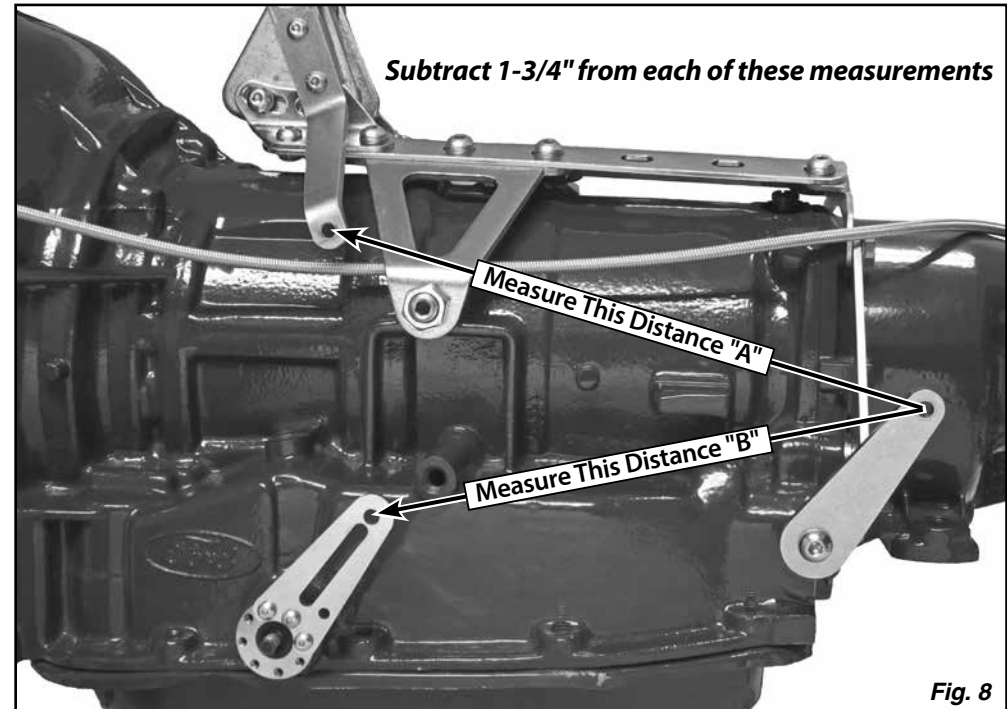

Fig. 8
Step 7: Measure the distance from the center of the 1/4" hole in the linkage arm to the center of the 1/4" hole in the quad lever on the shifter (Fig. 8 distance "A"). Subtract 1-3/4" from your measurement and write it down.
Next, measure the distance from the 1/4" hole in the linkage arm to the 1/4" hole in the trans arm on the selector shaft (Fig. 8 distance "B"). Subtract 1-3/4" from your measurement and write it down.